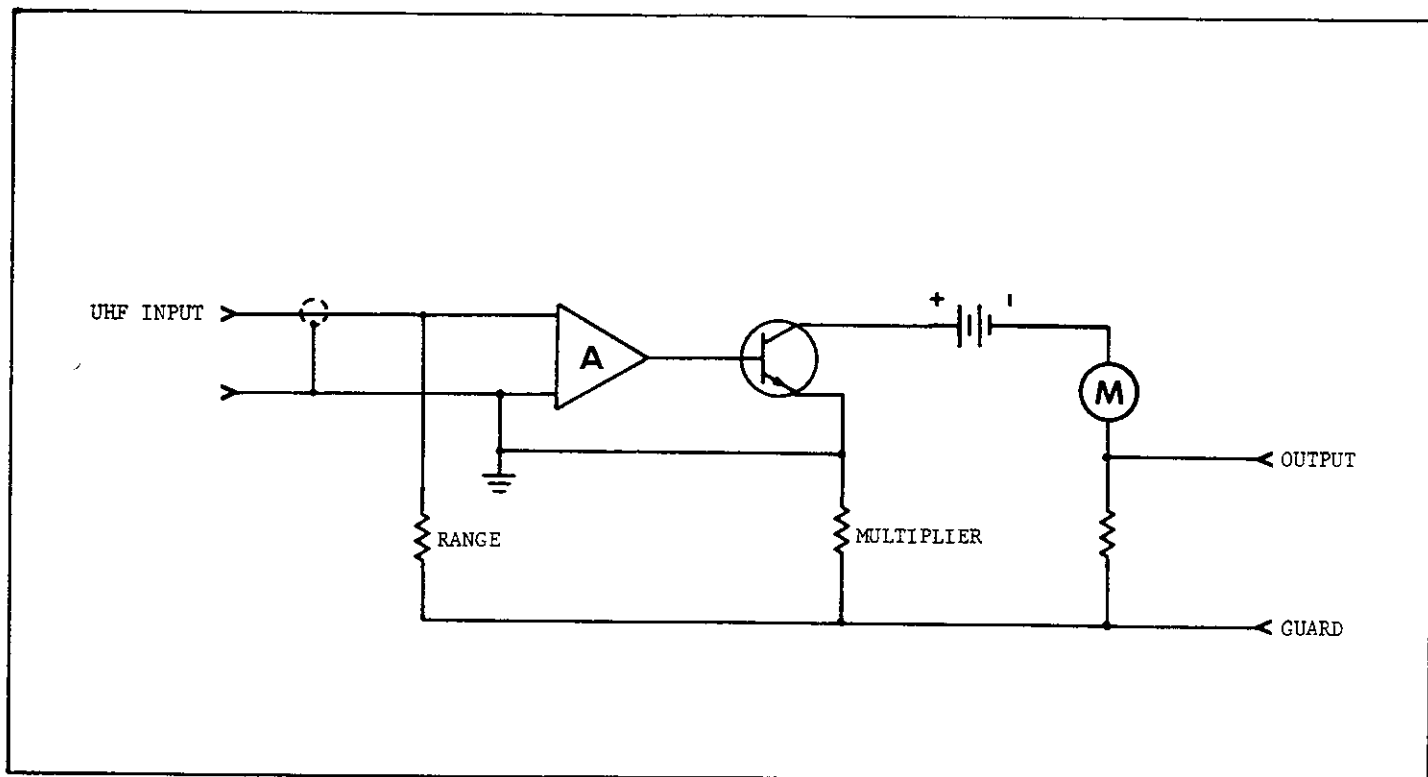

FIGURE 11. Ammeter Configuration, FAST Mode.
a. Normal Method. In the normal method of current measurements (FEEDBACK Switch in NORMAL position), one of the Range Switch resistors, R102 through R112, shunts the input. (See Figure 11). The Model 610C then measures the voltage drop across the resistor. The meter is calibrated to read the current in amperes for the appropriate range.
b. Fast Method. In the fast method of current measurements (FEEDBACK Switch in FAST position), the Model 610C functions as an ammeter with negative feedback. The differential amplifier output is divided by the Multiplier Switch resistors, R165 to R175, and fed back to the amplifier input through a feedback resistor selected with the Range Switch. (See Figure 11). Floating ground is connected to the low impedance side of the input, and the output ground is floating. This method increases the response speed by minimizing the effects of input capacity; it also reduces the input drop to less than 100 microvolts.
3-6. COULOMB METER OPERATION. The Model 610C circuit for measuring charge is similar to that used for an ammeter with the fast method. A negative feedback is applied around a shunt capacitor, C108 to C111, selected with the Range Switch. The shunt capacitor replaces R_s in Figure 11. The stored charge is proportional to the voltage across the capacitor, which is measured by the Model 610C voltmeter circuits.